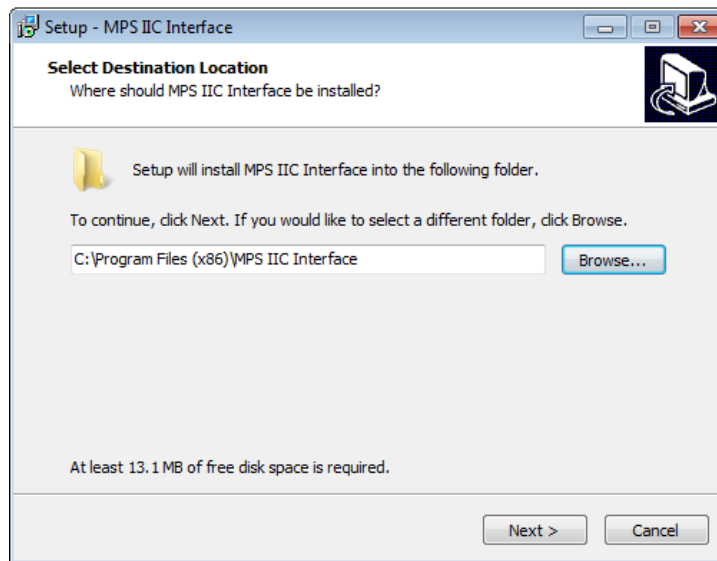

Figure 4: MPS I2C GUI Set-Up Guide
3. Once the download has completed, double-click the .exe file to open the set-up guide (see Figure 4). If a protection window comes up, click “More info,” then click “Run anyway.”